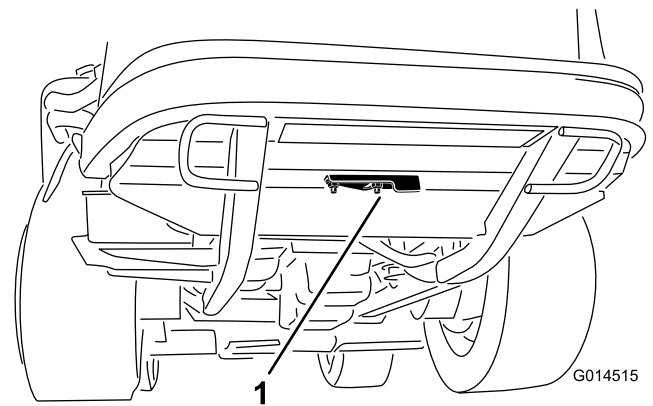

Figure 45
2. Loosen the flange nut securing the clean out cover to the underside of the rear frame (Figure 45). Rotate the cover to the side to expose the clean out hole in the frame.